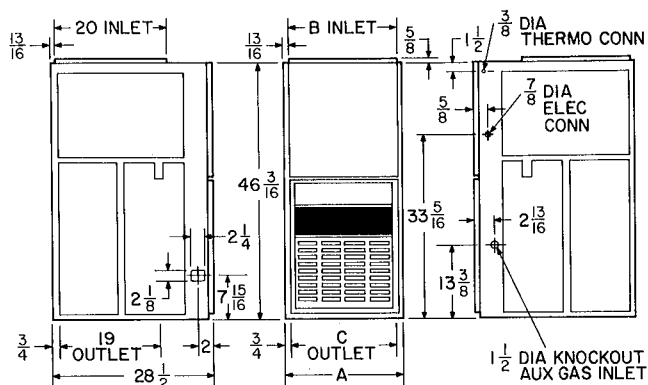

Fig. 2 — Dimensions (in.)
- 1 See Fig. 2 for dimensions and location of supply air opening in furnace bottom